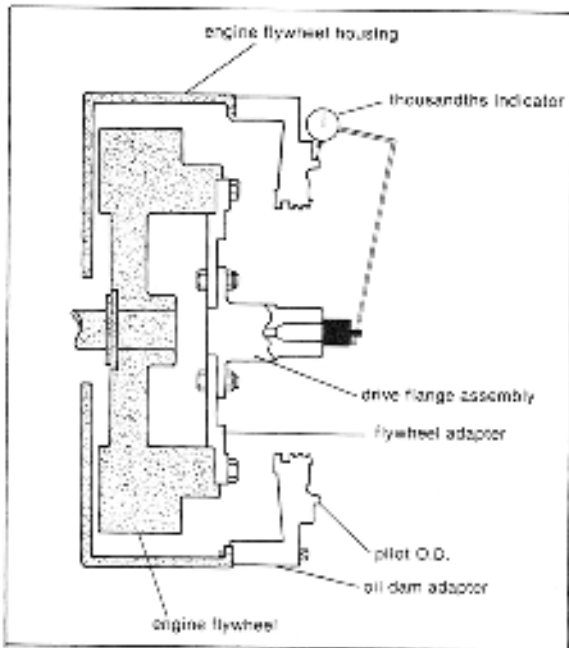

Figure 4. Dial Indicating Oil Dam Adapter Pilot O.D.
9. Dial indicate oil dam pilot O.D. as shown in figure 4. Record reading. **Total** indicator reading must not exceed .007 in.